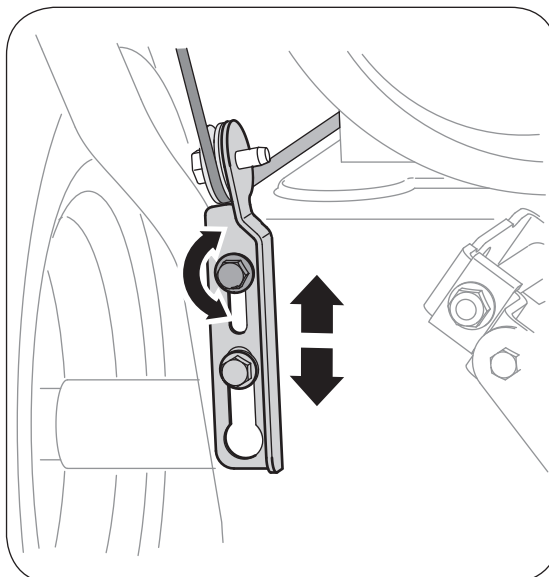

Figure 2
- Allow the auger to remain engaged for approximately ten (10) seconds before releasing the auger control. Repeat this several times.
- Position the bracket upward to provide more slack (or downward to increase cable tension). See Figure 2.